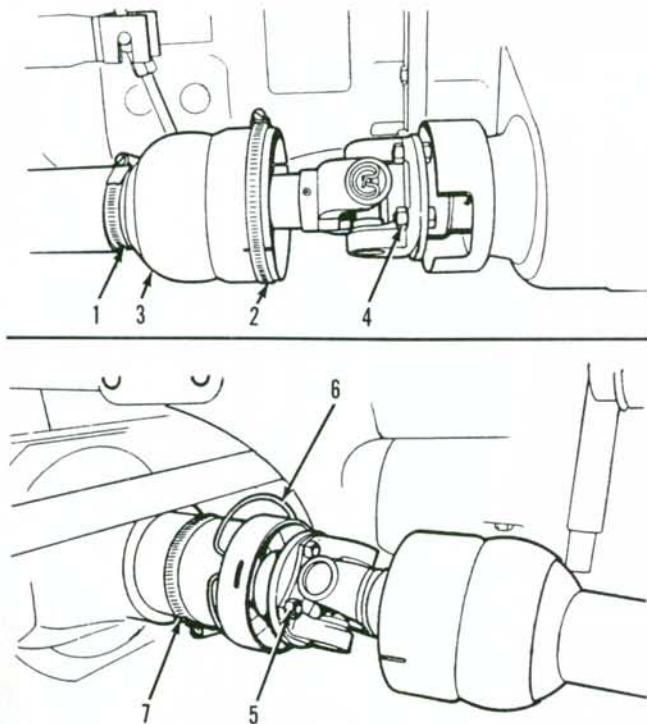

Fig. 14—View showing both ends of drive shaft and shield. Front (axle) end of shield is retained by clip (6).
9. REMOVE AND REINSTALL. To remove drive shaft, first loosen clamps (1 and 2—Fig. 14), then slide guard (3) into the center tube. Remove spring clip (6) from guard at front. Remove bolts (4 and 5) from ends, then remove the shield and drive shaft assembly. Unscrew seal retaining ring from the sliding coupling, remove sliding coupling from rear end